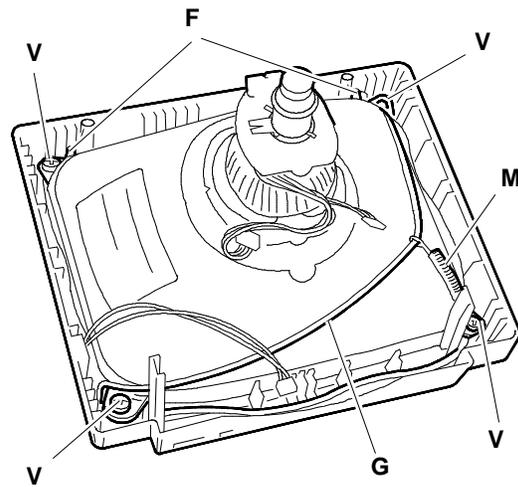

Fig. 11-15 CRT removal
- If they are not, move the CRT by means of the fixing screws indicated in figure 11-15.